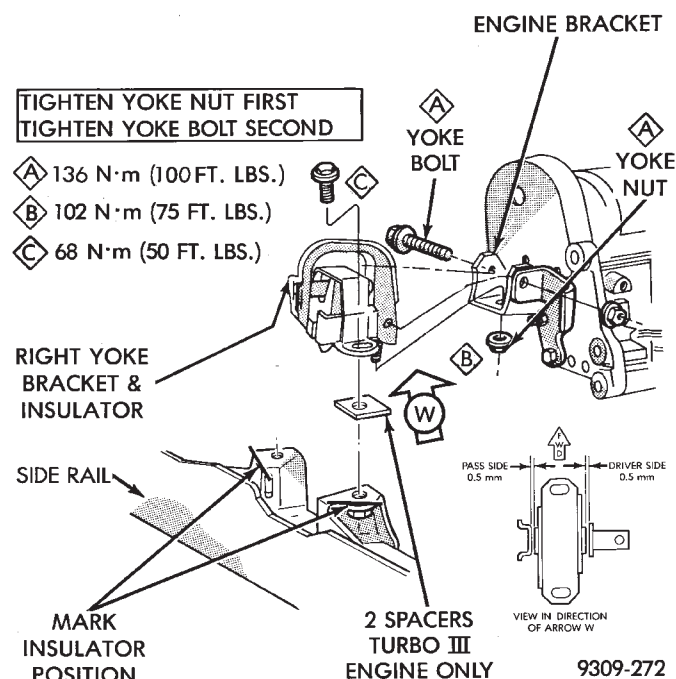

Fig. 5 Right Engine Mount—Typical
- (1) Remove timing belt cover refer to timing belt cover service of this section for procedure.
(2) Lift engine with Engine Support Tool C-4852. Separate right engine mount (Fig. 5).